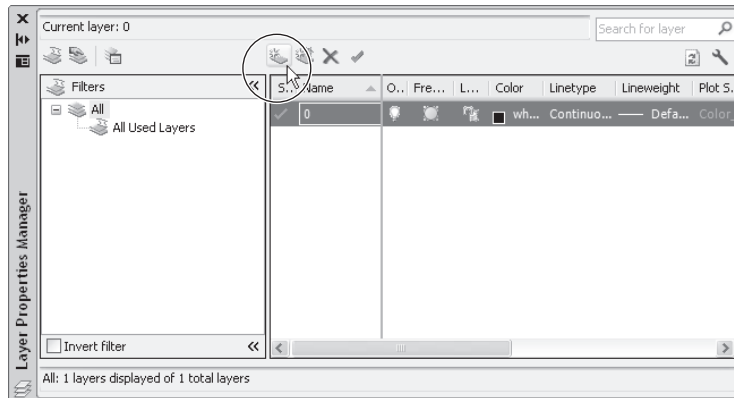

Figure 7.2
2. Click the New Layer tool at the top of the tool palette (see Figure 7.2). A new layer named Layer1 appears in the list box. The name is highlighted, so you can immediately start typing a name for it.